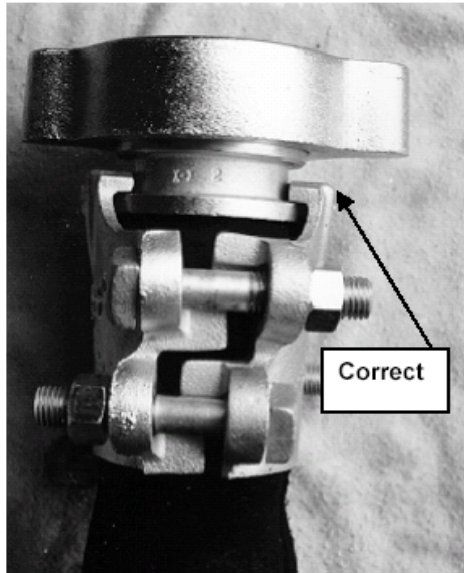
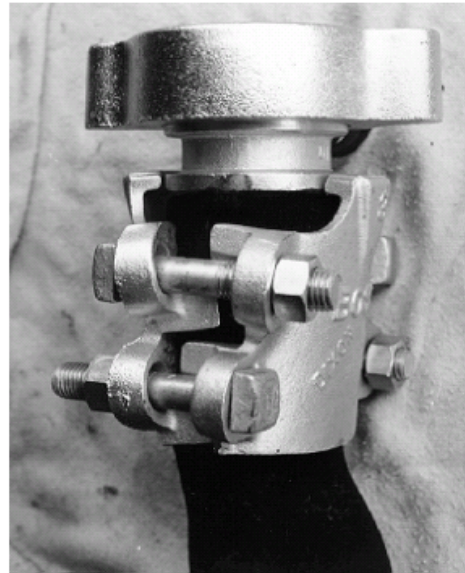

Figure 2. Safely fitted hose couplings.
Figure 3. Unsafe hose couplings. Hose clamps do not lock into the stem groove.
Diamonds North personnel must be able to identify incorrectly fitted hose couplings, i.e., hose clamp lugs **must lock into the stem groove as shown in Figure 2. The coupling assembly must not contain any mismatched parts as shown in Figure 3.**
5. **Hoses and couplings must match and lock completely and correctly** (Fig. 2).